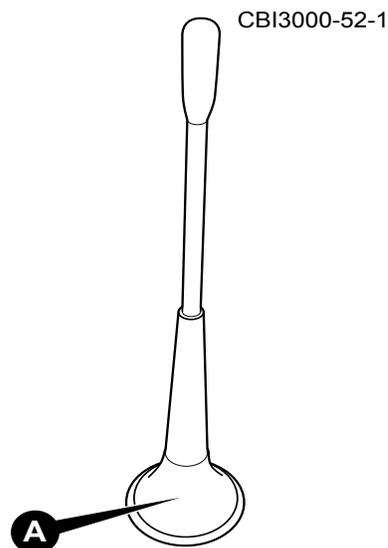

Figure 6.61 - Disconnect Wireless Antenna
4. Disconnect Link CAN Antenna (If Applicable) - If your machine is configured to wirelessly link with another Terex machine (a combo unit), disconnect the wireless CAN antenna (Figure 6.61) that they use for communication.